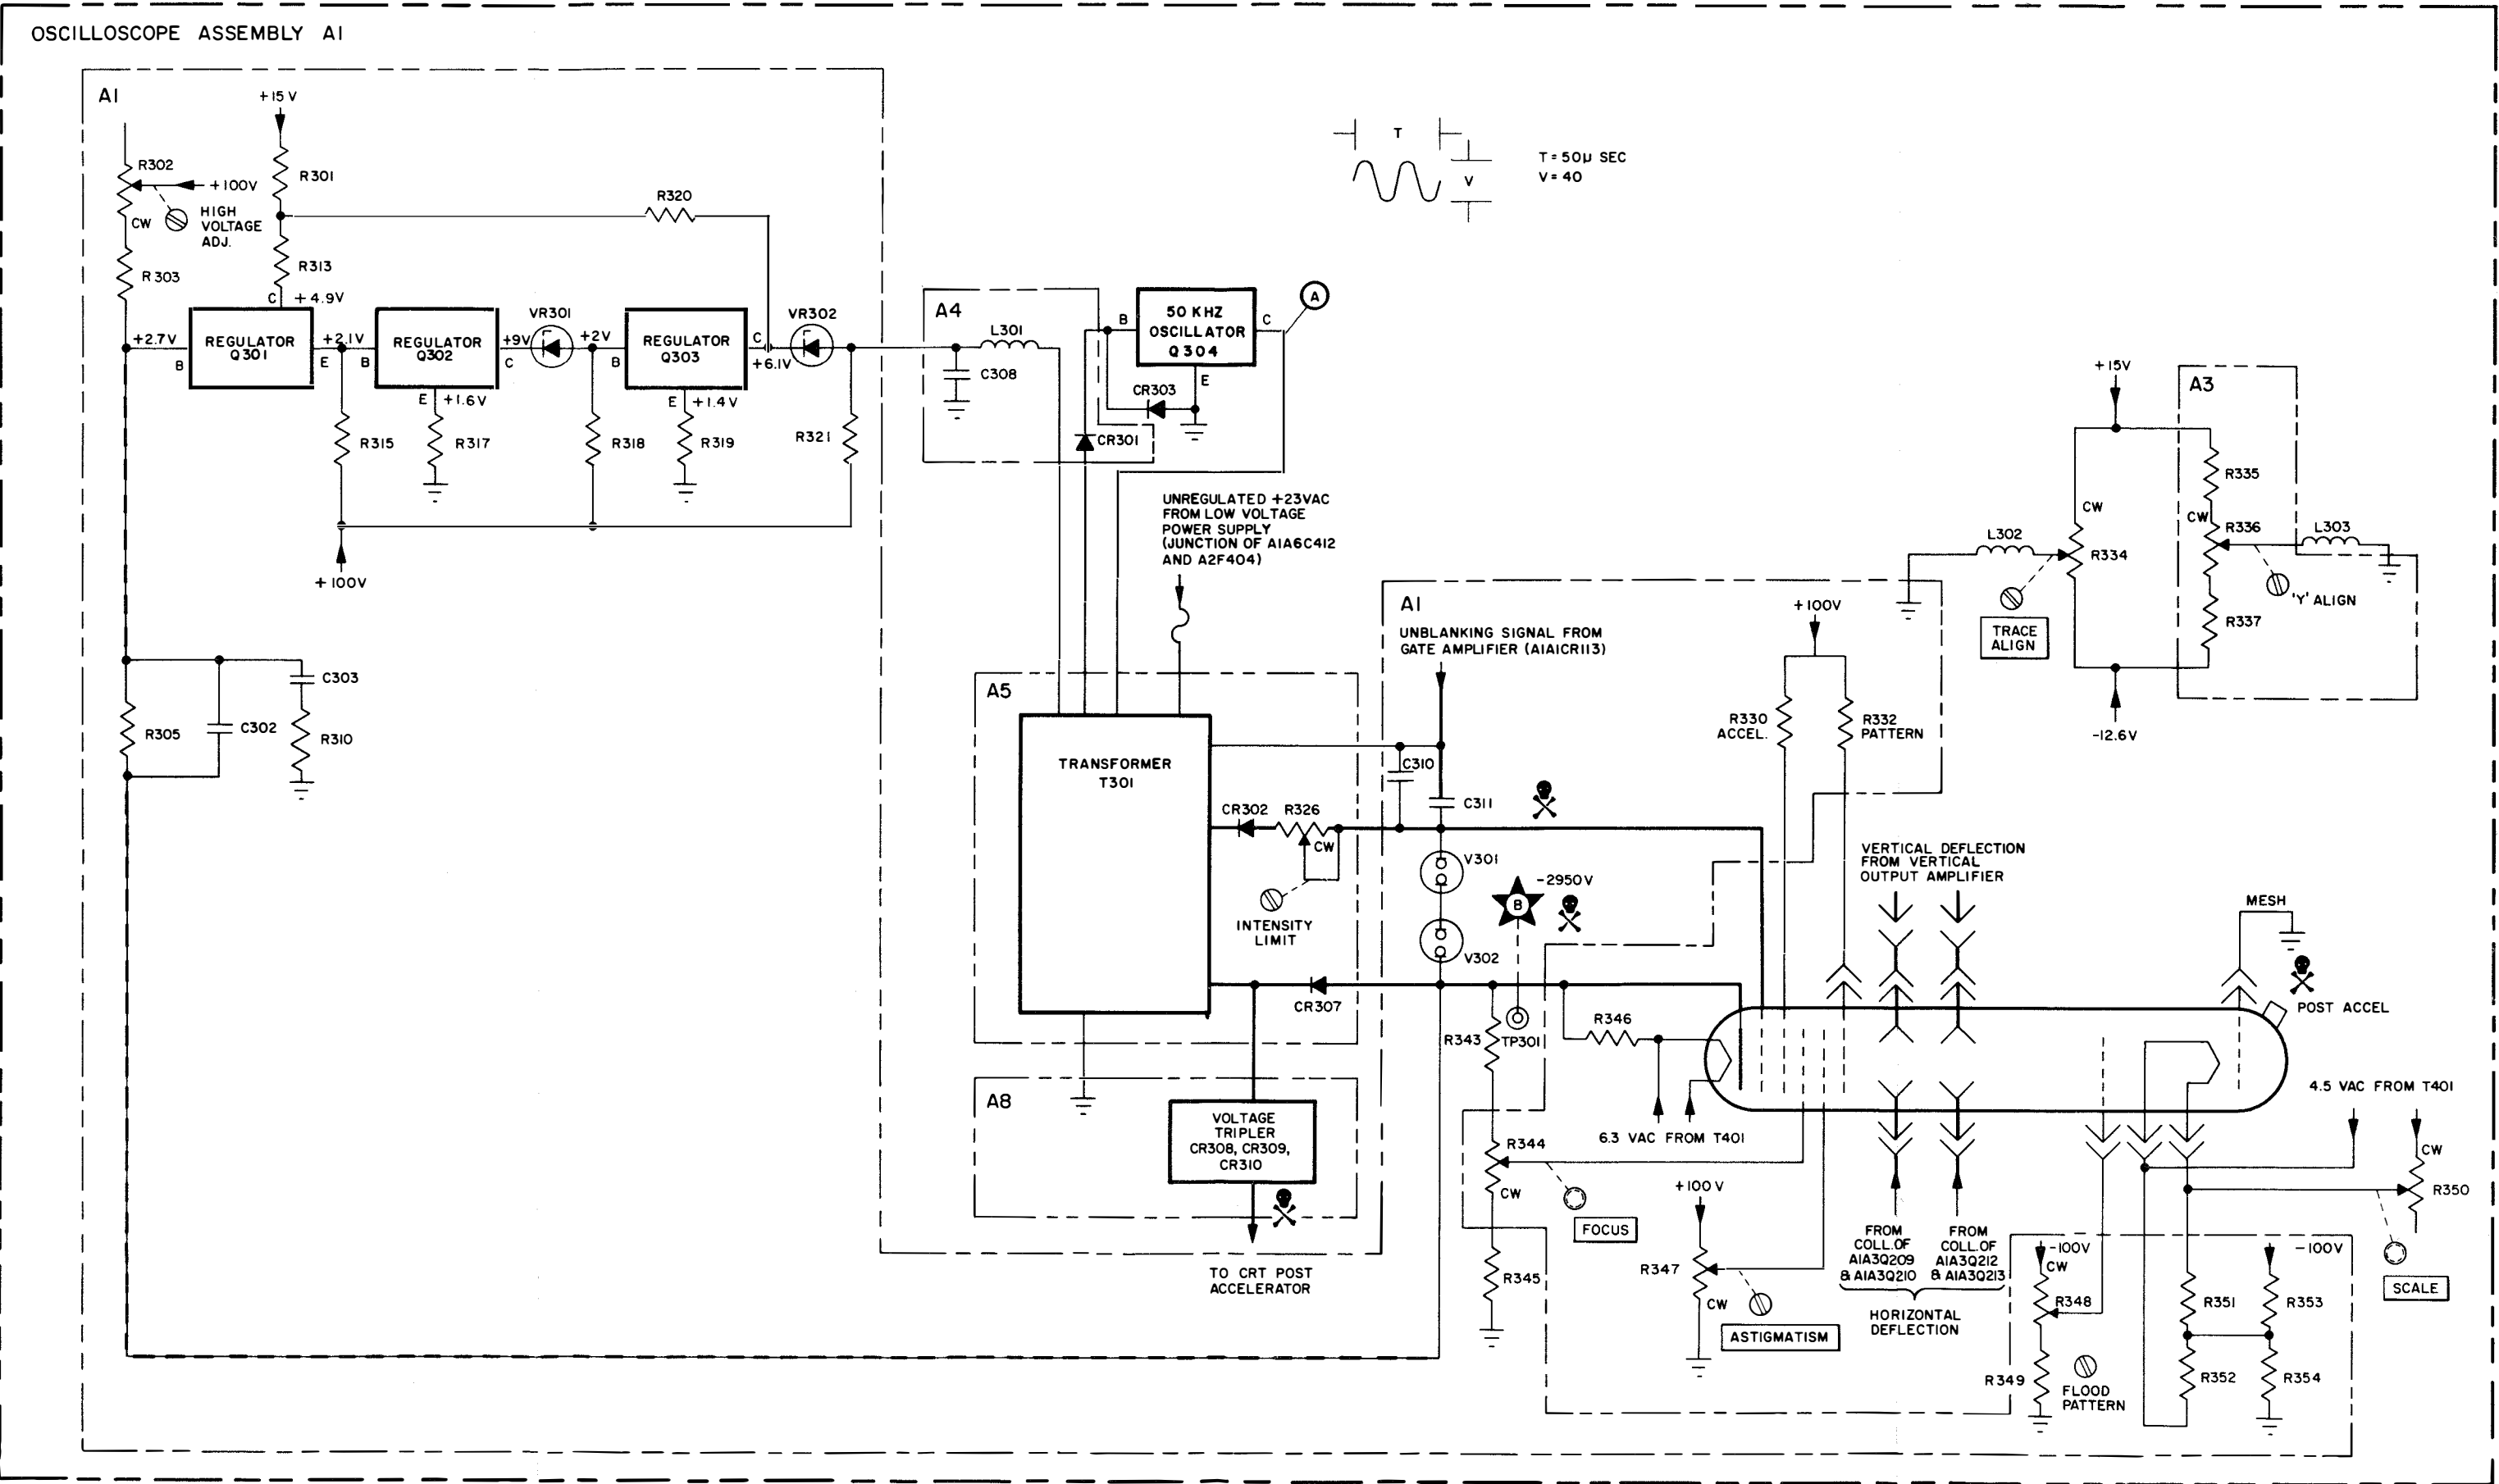

Figure 4-4. High Voltage Power Supply
a. HIGH VOLTAGE POWER SUPPLY FUNCTIONAL DESCRIPTION. - The +23 volt unregulated output from the low voltage power supply provides operating power through fuse A1F301 to a transformer-coupled oscillator consisting of A1A5T301 and A1Q304. A1A4CR303 insures A1Q304 base-emitter breakdown protection in a reverse bias condition. See figure 4-4. The 50 kHz output of the oscillator is coupled from two secondary windings on A1A5T301 to two half-wave rectifiers and a voltage tripler. The output of half-wave rectifier A1A5CR302 is filtered, compared with the unblanking voltage, and applied to the control grid of the CRT to provide intensity control of the CRT. Intensity limit A1A5R326 adjusts the dc potential on the grid. The -2950 volt output of second half-wave rectifier A1A5CR307 is filtered and applied to the cathode of the CRT and through FOCUS control A1R344 to the focus grid of the CRT. Voltage limiters A1A1V301 and A1A1V302 are connected in series between the cathode and control grid of the CRT to limit the maximum potential difference between these elements to 140 volts in the event one of the elements is shorted to ground or to a positive potential. The voltage tripler consisting of diodes A1A8CR308, A1A8CR309, A1A8CR310 and associated capacitors produces a 9 kv output (approximate) and applies this voltage to the CRT post-accelerator to provide the necessary beam accelerating potential.
b. HIGH VOLTAGE POWER SUPPLY TROUBLE SHOOTING. - The trouble-shooting chart for the high voltage power supply functional section is provided in table 4-4 and the servicing block diagram is shown in figure 4-4. Prior to trouble shooting the high voltage power supply, insure that the low voltage power supply is functioning properly as its' operation is essential to obtain the high voltage output. If the low voltage supplies are functioning properly the oscillator should be checked next. If the oscillator is not functioning (in addition to checking the oscillator and regulator circuit), check for a shorted component in the feedback path (A1A1R305, A1A1C302, A1A1R310 and A1A1C303) as this could cause the regulator to cutoff the oscillator. If the oscillator is operating properly, the -2950 volt supply should be checked next because this output controls the regulator. Exercise extreme care when trouble shooting this section of the supply because it contains voltages dangerous to life. When taking voltage measurements in this section, always use a 100:1 divider probe to protect the test instrument. Always keep one hand away from the test setup to prevent a good ground path through the body in the event of accidental contact with these voltages.
c. USEFUL ILLUSTRATIONS. - Illustrations useful in maintaining this functional section are: Figures 4-4, 5-10, 5-13, 5-16, 5-17 and 5-30.